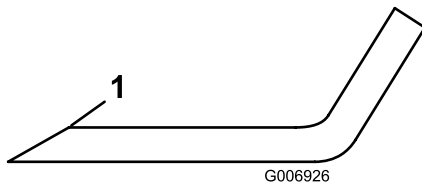

Figure 35
1. Use a file to sharpen the cutting edge at both ends of each blade (Figure 35). Maintain the original angle. The blade retains its balance if you remove the same amount of material from both cutting edges.